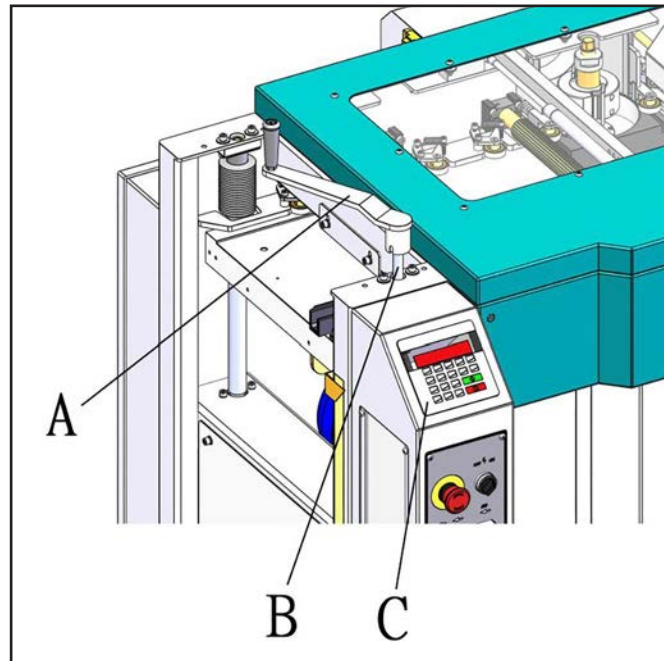

**Figure 28.** Table elevation controls.
To manually move the work table up and down, use the crank (A) (see **Figure 28**) to turn the table elevation leadscrew (B).